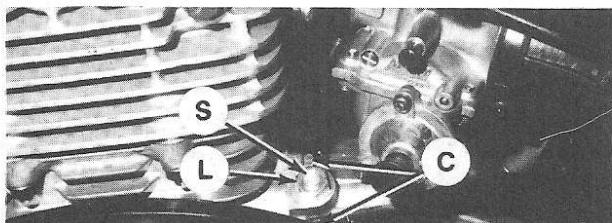

Fig. S6-15—Following procedure outlined in text, loosen locknut (L) and set screw (S) to adjust cam chain tension.
Cam chain tension should be adjusted after the first 200 km (100 miles) of operation and every 1000 km (600 miles) thereafter. Cam chain tension is adjusted with piston at TDC on compression stroke. Align timing marks as previously described in VALVE SYSTEM section to set piston at TDC on compression stroke; however for cam chain tension adjustment, make sure flywheel is rotated in normal operation direction (counterclockwise) only. Loosen locknut (L—Fig. S6-15) and back out set screw (S) one complete revolution to release tensioner push rod. Spring in tensioner mechanism automatically